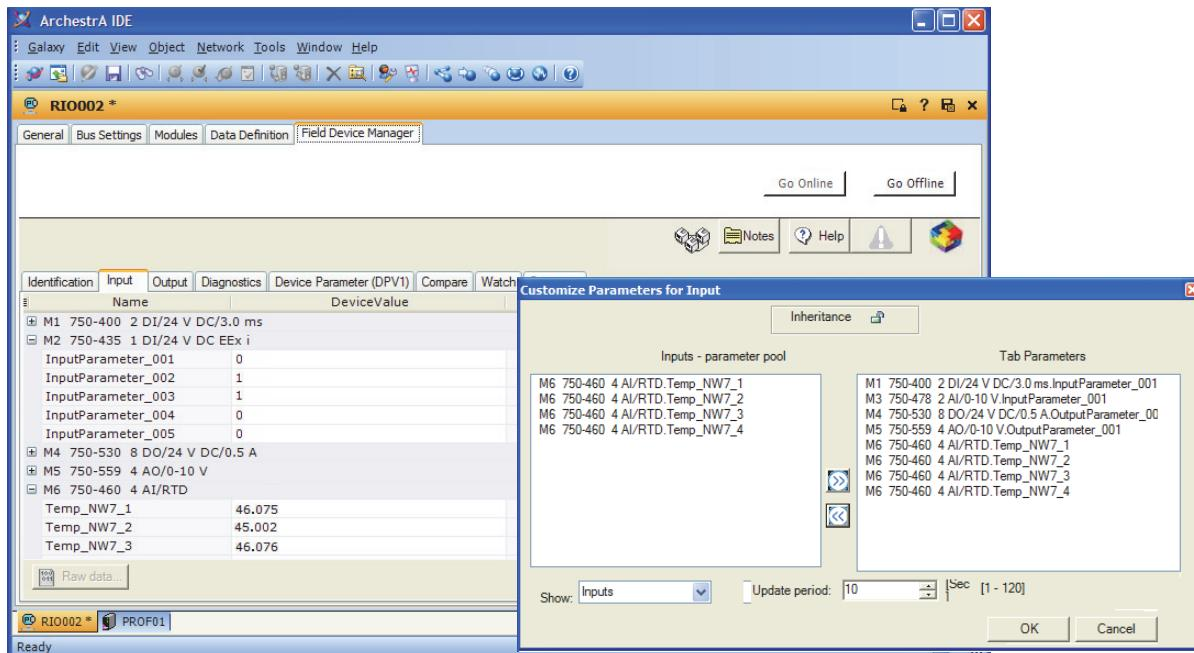

Figure 8. Selecting Input Parameters for Online Display in Field Device Manager
- ▶ Input tab (Figure 8) and Output tab provide real-time displays of the parameters defined in the Data Definition tab (or the Vendor DTM if the parameters were configured with the device manufacturer's DTM).